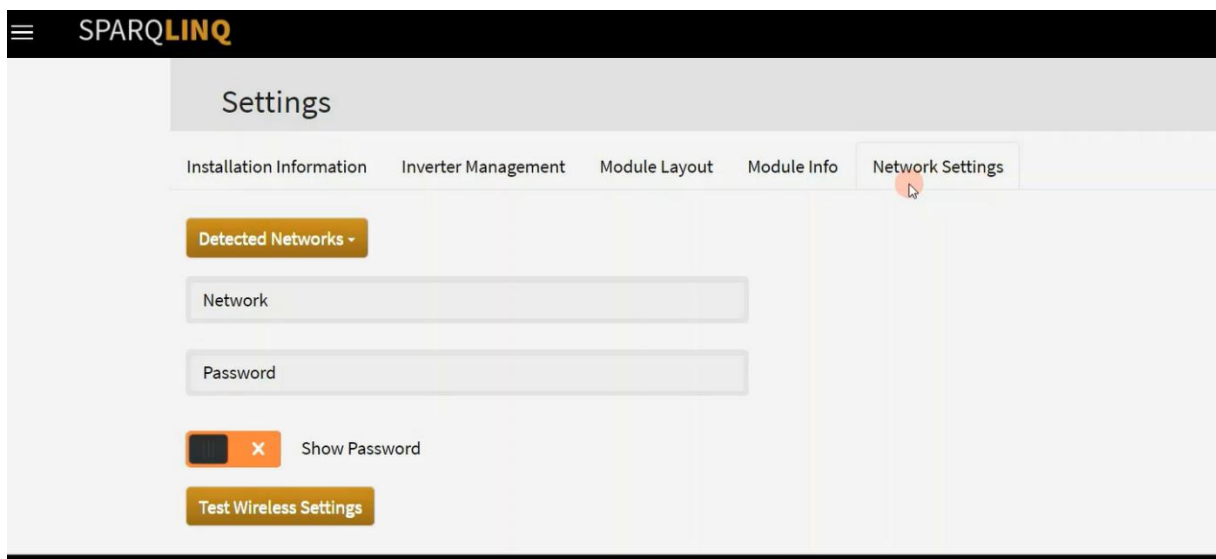

Figure 15: Network detection.
- 2- On the Settings page select the “Network Settings” menu as shown in Figure 15.